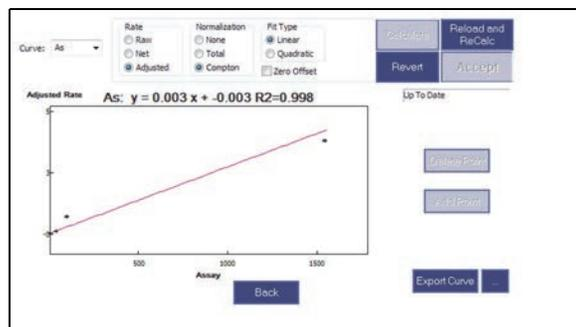

Figure 6-13 Curve parameter selection
1. Select the element in the **Curve** list, and then click **Setup** to display the **Curve** setup pane (see Figure 6-13 on page 90).